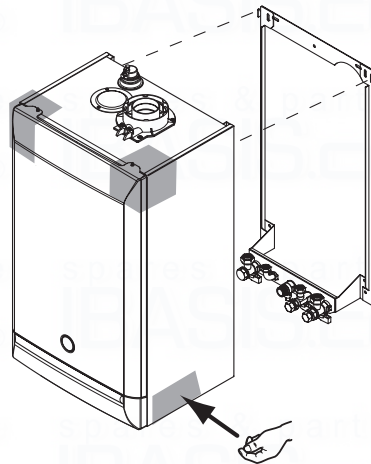

Fig. 35
2. Lift the boiler as indicated by the shaded areas. The boiler should be lifted by TWO PEOPLE. Engage the slots at the top rear of the boiler on the wall plate (Fig. 35) (see **Safe Manual Handling** page 5).